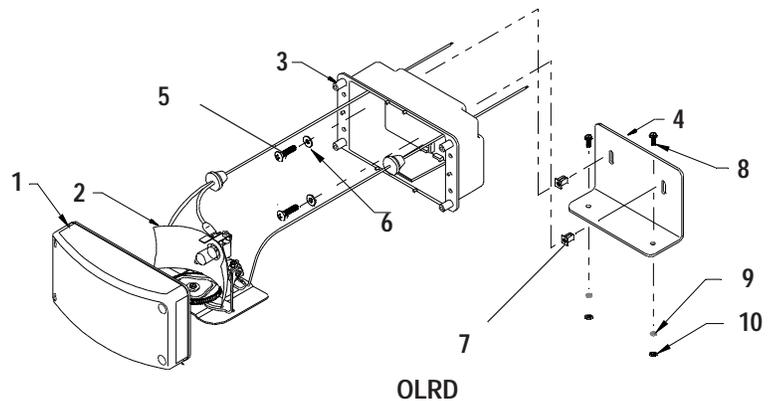

FIGURE 1
- 5) Using the supplied screws and washers (Parts #5 and #6, see Figure 1), attach the housing to the inserts in the bracket. Insure that the fasteners are sufficiently tight.